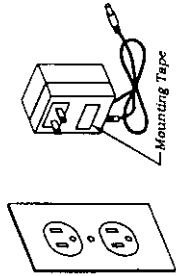

Figure 4-2
- \* REMOVE adhesive backer from mounting tape on transformer, and plug in the transformer. (Figure 4-2)